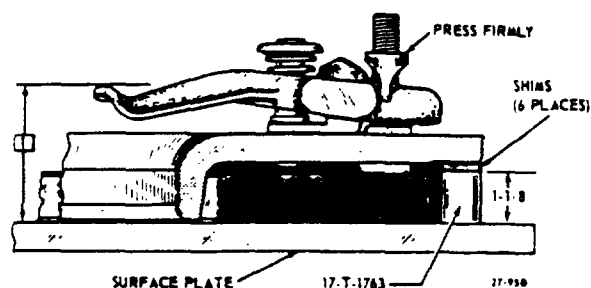

Figure 5-7. Wear Check
Place the pressure plate assembly and cover (without springs) into position as shown in Figure 5-7, making sure that shims of the correct thickness (.200) are inserted between cover and spacer (17-T-1763). Install each release lever and while pressing firmly on the fulcrum, measure distance (1) inboard end of lever is above cover.